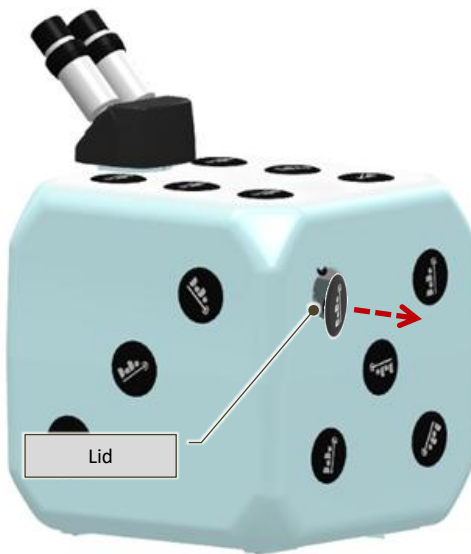

Fig. 6-10 – Removable lid
- Manually remove the black plastic lid located on the upper left rear of the machine (Fig. 6-10).